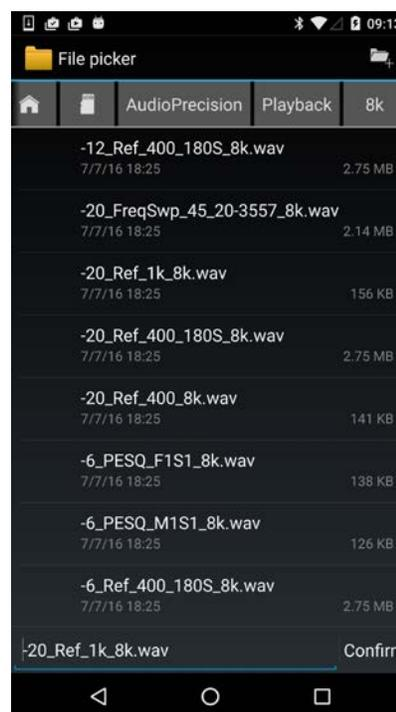

Figure 38 OI File Manager playback file selection.
**Select Audio File** invokes OI File Manager to select a file for playback from a list of existing files installed on the device in `AudioPrecision\Playback\...`, see Figure 38.